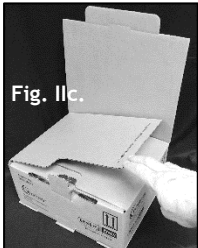

Fig. 2c.
5. Fold down the side flaps marked "2" and "3". (See Fig. 2c.)